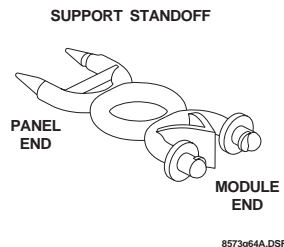

Figure 5. Support Standoff
3. Insert a support standoff shown in Figure 5 (supplied with panel) into the panel circuit board.